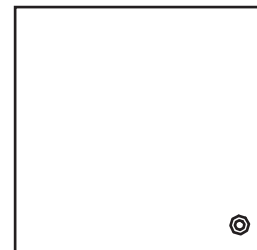

Fig. 13-5
9. Using the **POLYGON** command, draw a small trademark on the key, as shown in Fig. 13-5.